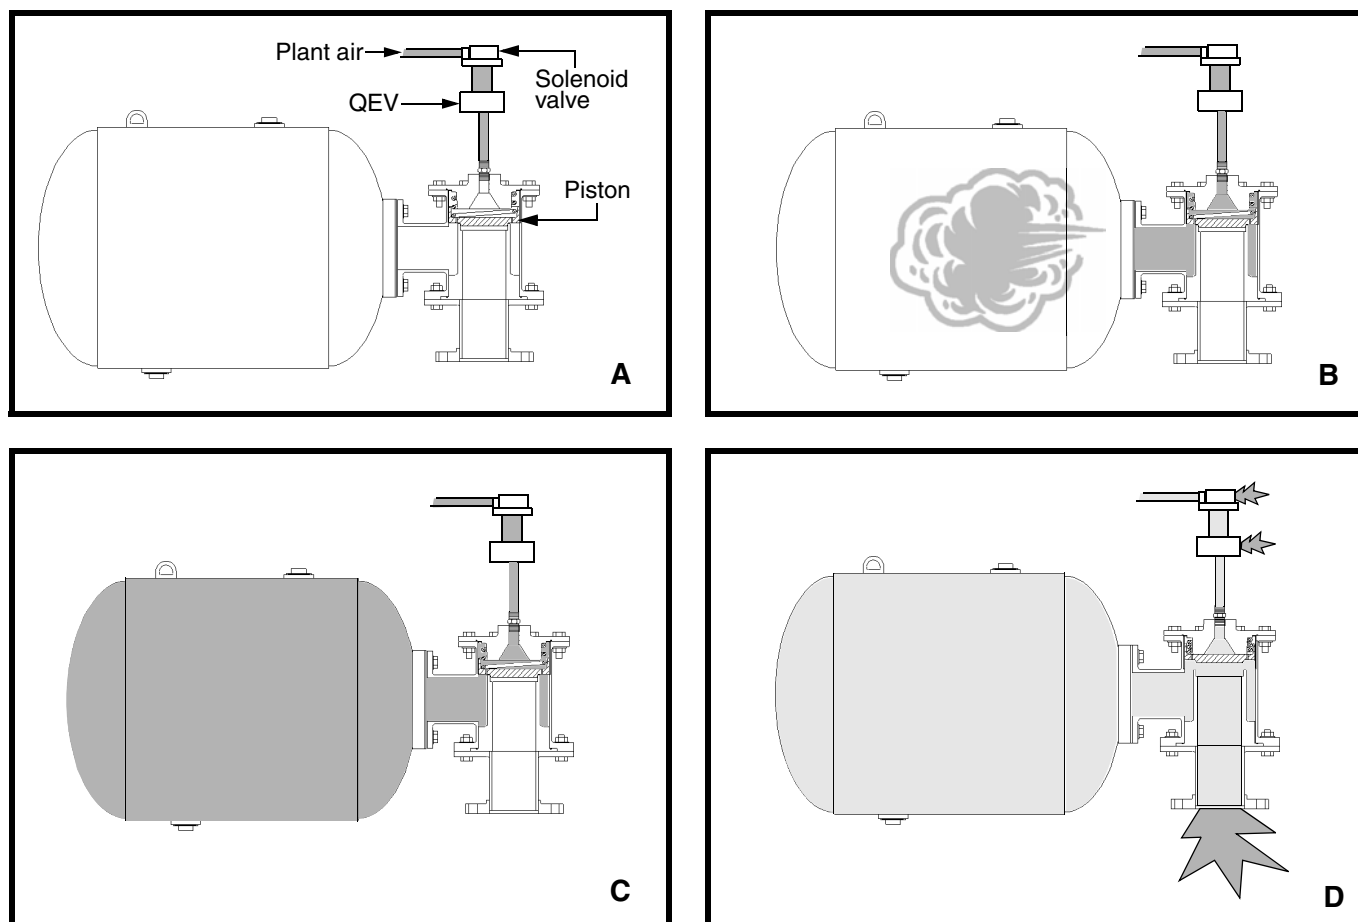

Figure 2. Air Cannon Charging and Discharging
The MARTIN® XHV Air Cannon System consists of one or more air cannons mounted on a storage vessel. The air cannon charges when the tank is filled with plant compressed air or nitrogen between 40 psi (2.76 bar) and 120 psi (8.27 bar) (A, Figure 2) that is controlled by a 3-way normally open solenoid valve. Air fed through the valve body-mounted quick exhaust valve (QEV) passes through the piston and into the tank (B). When tank pressure equals line pressure, airflow is static and the cannon is ready to discharge (C). By activating the solenoid valve, the air supply is shut off and the air line between the QEV and solenoid is emptied. This allows the QEV to quickly release the pressure holding the piston. The piston is instantly forced back by the pressure stored in the tank which then exits through the discharge pipe, releasing the energized air pressure stored in the tank. This blast of air is directed through the discharge pipe and into the storage vessel (D).